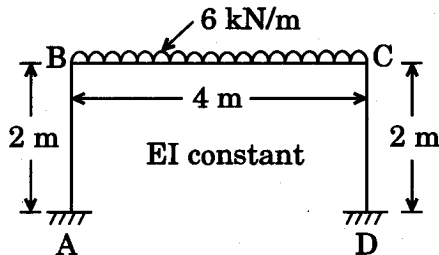

Figure 4
6. Analyse the portal frame as shown in Figure 4 by moment distribution method. The frame is fixed at A and D and has rigid joints at B and C. EI is constant. Also draw the bending moment diagram. 14